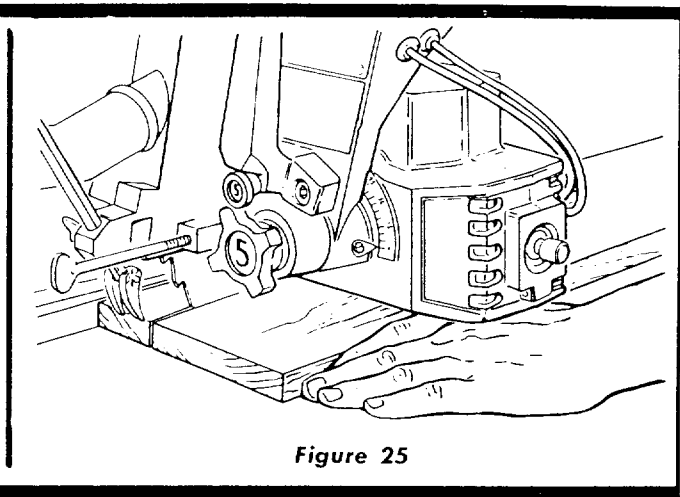

Figure 25
**IN-RIPPING.** "In-rip" refers to a position when the saw blade is between the motor and fence, parallel to the fence. (See figure 25.) To place the saw in this position, unlock the yoke, disengage the swivel index knob and rotate the yoke 90° clockwise (viewing it from the carriage) until the swivel latch pin automatically indexes the yoke at 90°. Lock the yoke securely. Position the carriage on radial arm to provide proper width of cut by measuring from edge of saw blade to rip fence with a scale. Position the discharge elbow on the guard so that sawdust will be blown toward the rear. Turn the saw "ON" and lower the radial arm until saw blade cuts into the table top approximately 1/32-inch and turn the saw "OFF". Adjust the saw guard and anti-kickback pawl assembly as described previously.